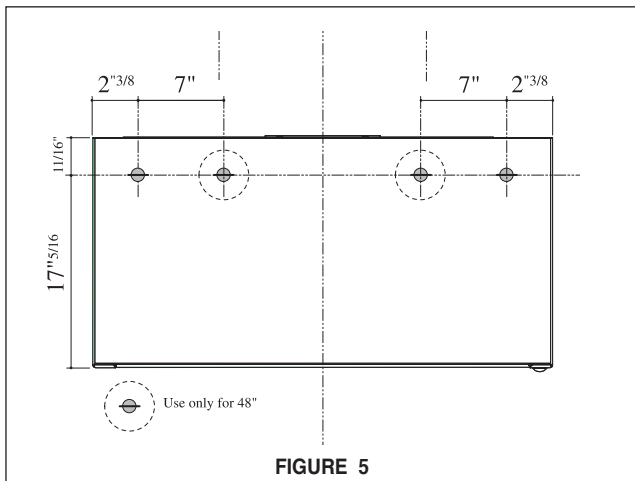

FIGURE 5
3. The Pro Magnum attaches to the wall by mounting screws indicated in **FIGURE 5**. For the 30" and 36" models, there are two mounting screws. For the 48" model, there are four mounting screws. Install the screws into the wall. The screws should be inserted into the wall until the screw head is flush with the wall.